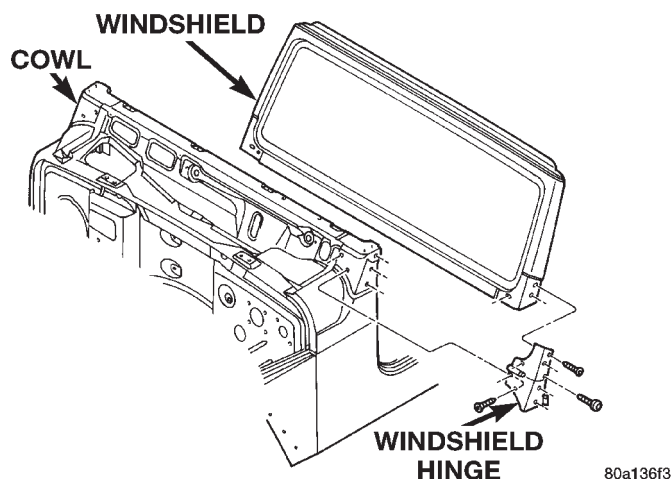

Fig. 9 Windshield Hinge
- (1) Remove door.
- (2) Remove the bolts attaching the hinge to the cowl (Fig. 9).
- (3) Remove the bolts attaching the hinge to the windshield frame.
- (4) Separate the hinge from the vehicle.